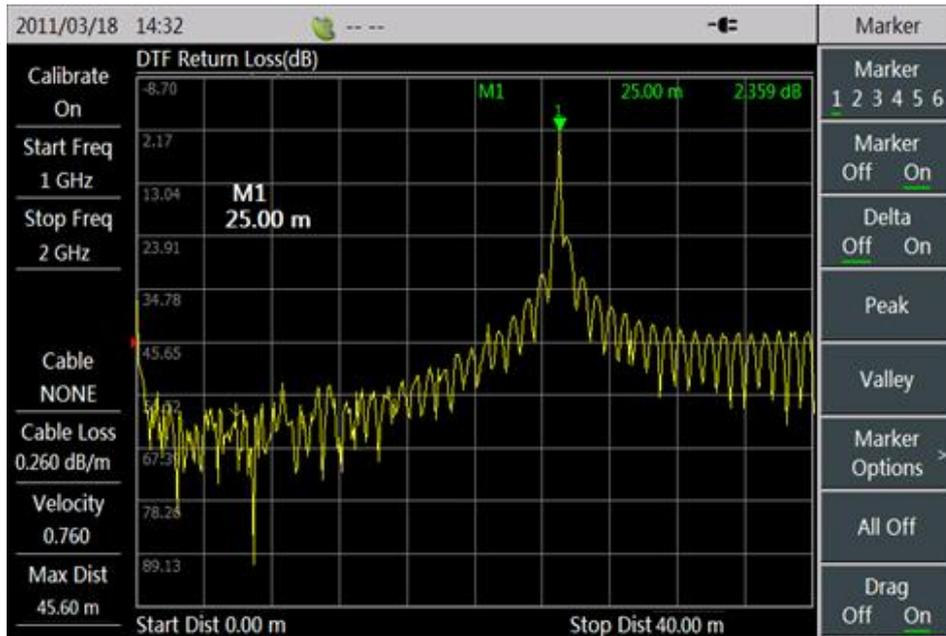

Figure 3.12 Measurement on Length of Cable
12. Press **【Marker】** to enter the marker menu, Marker 1 has been turned on at this time. Select [Peak] menu to place Marker 1 onto peak value (namely fault point), in order to read out the location of fault point, that is the distance from fault point to measurement port of Analyzer. At 25m length of this cable exemplified here, we measure that DTF return loss is 2.359 which indicates that the length of cable is 25m. Or, you can check DTF return loss at each position by moving the marker. Fault points measured here are shown in Figure 3.12.